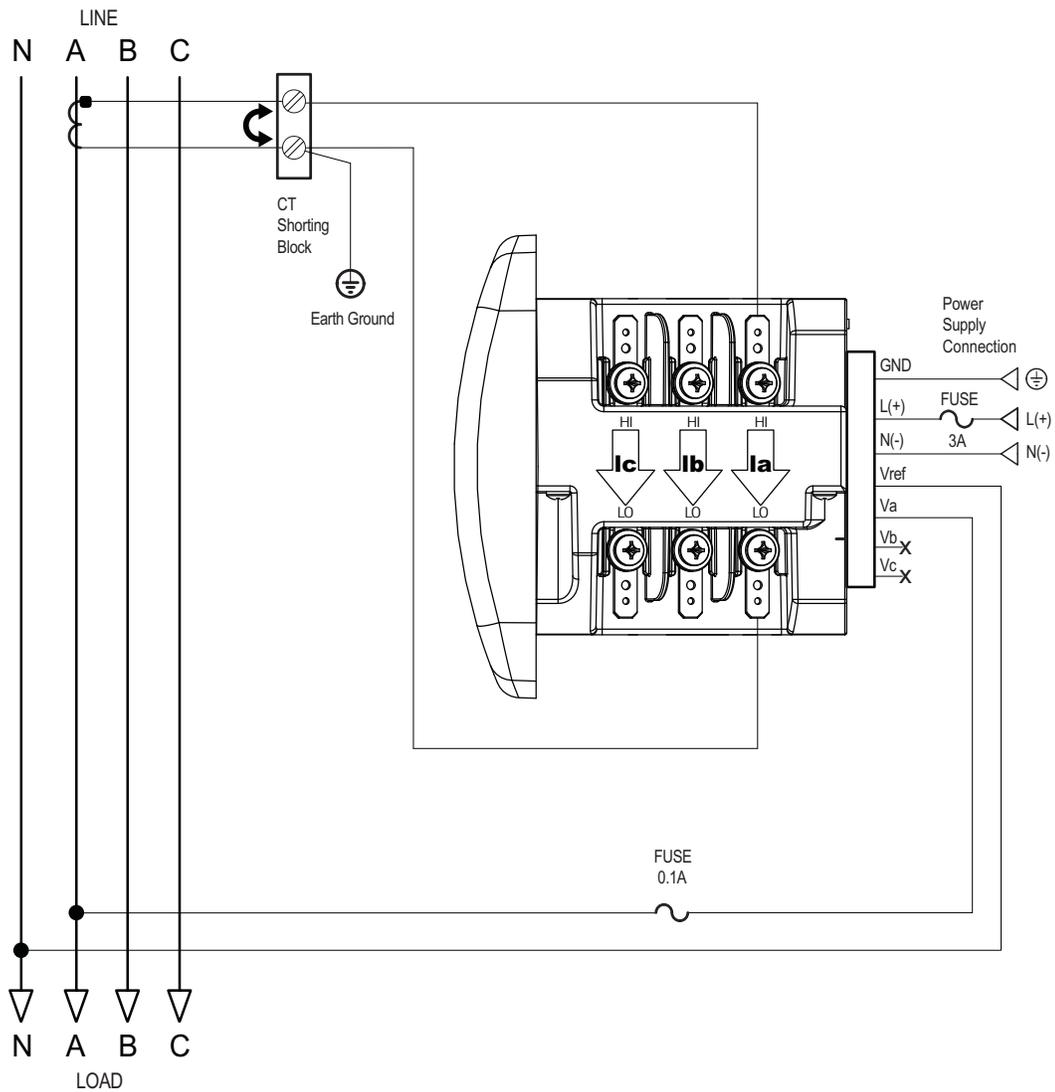

Figure 4-7: Example of Single Phase Hookup
- Figure 4-7: *Example of Single Phase Hookup* on page 4-10